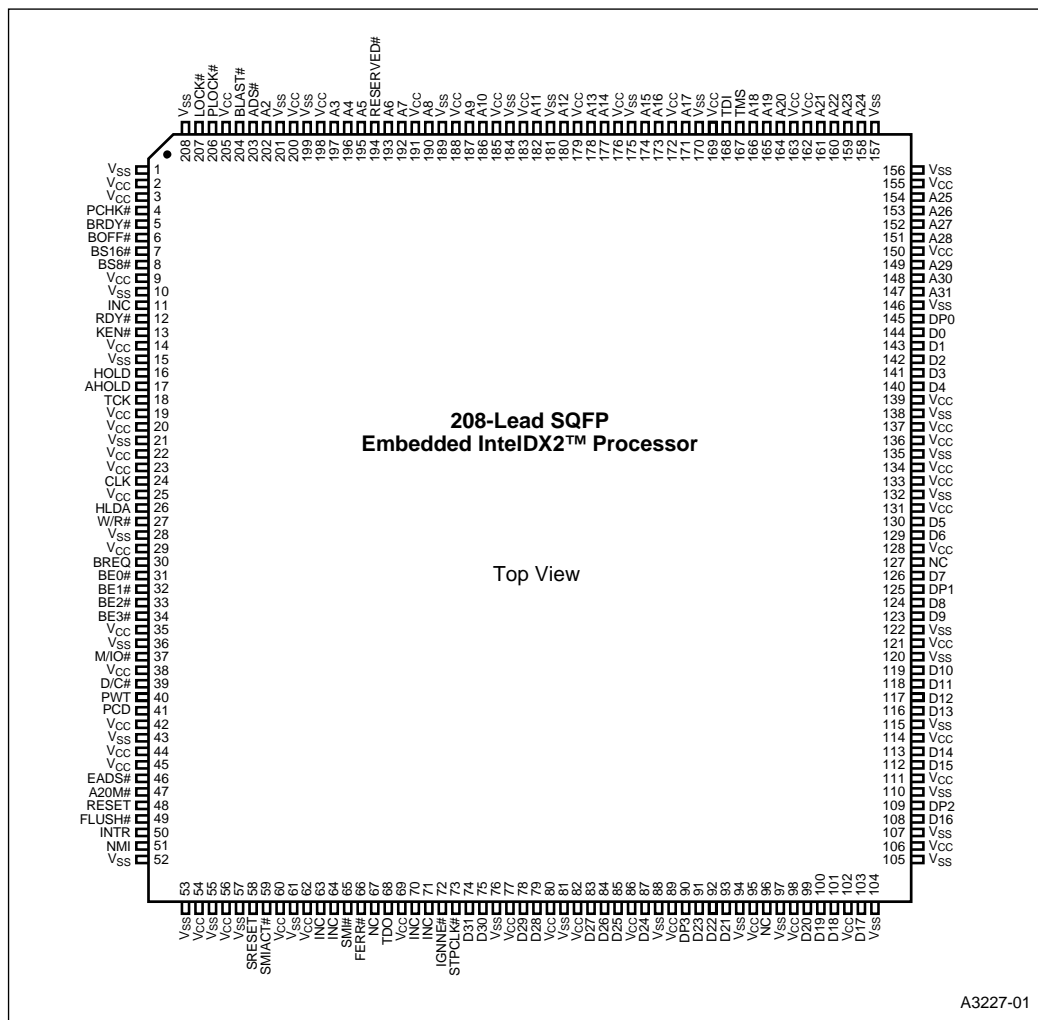

Figure 2. Package Diagram for 208-Lead SQFP Embedded IntelDX2™ Processor
- Figure 2, Package Diagram for 208-Lead SQFP Embedded IntelDX2™ Processor (pg. 4)